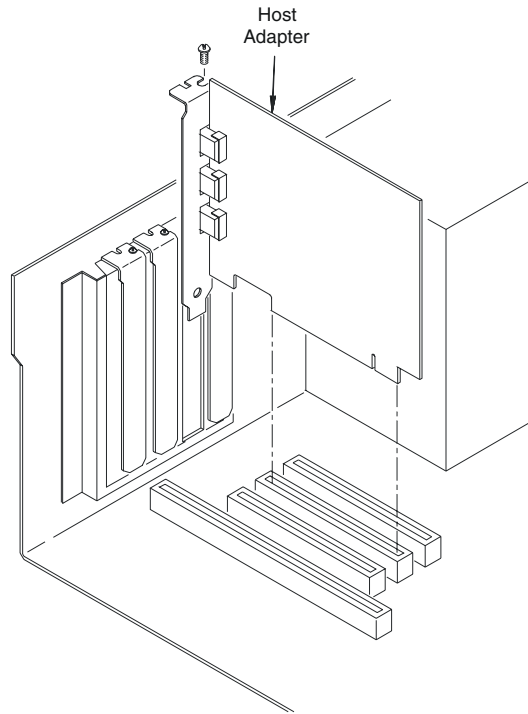

Figure 4-4 **Installing the Host Adapter.**
4. Align the bus contacts on the bottom of the host adapter with the PCI bus slot. Carefully, but firmly, press the adapter into the slot (Figure 4-4).